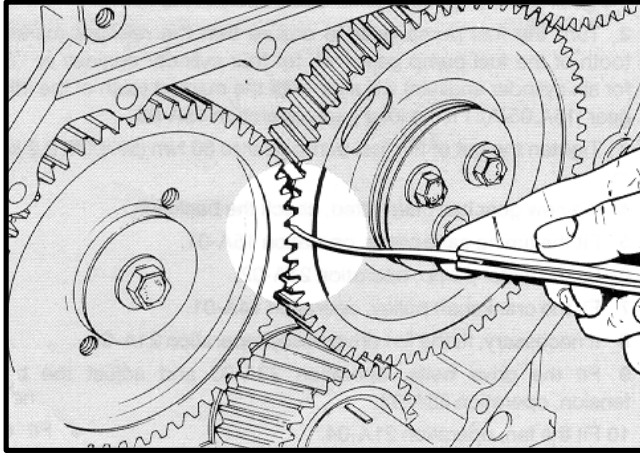

FIGURE 61. CHECK THE TIMING GEAR CLEARANCES
5. Check the timing gear clearances as shown in FIGURE 61. The minimum clearances for all gears is 0.08 mm (0.003 in).